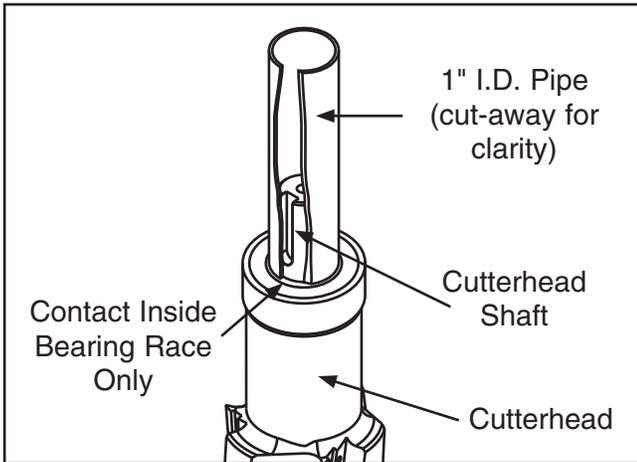

Figure 12. Close-up of bearing installation.
2. Install new bearing on cutterhead by very gently tapping it using a mallet and a 4" length of 1" inside diameter (I.D.) pipe, as shown in **Figure 12** on **Page 5**.
Important: *The pipe should contact the inside race of the bearing only, as shown in **Figure 12**. Force on any other portion of the bearing WILL ruin the bearing!*